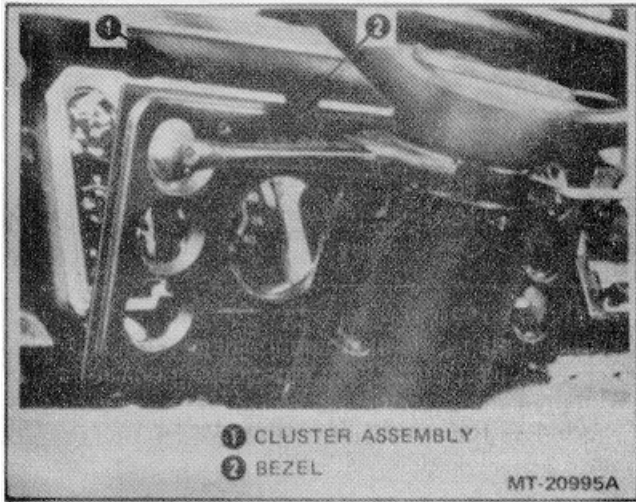

Figure 6 Removing Instrument Cluster Bezel
1. With the four cluster mounting screws removed, remove a fifth mounting screw from center of cluster bezel and detach bezel (Figure 6).